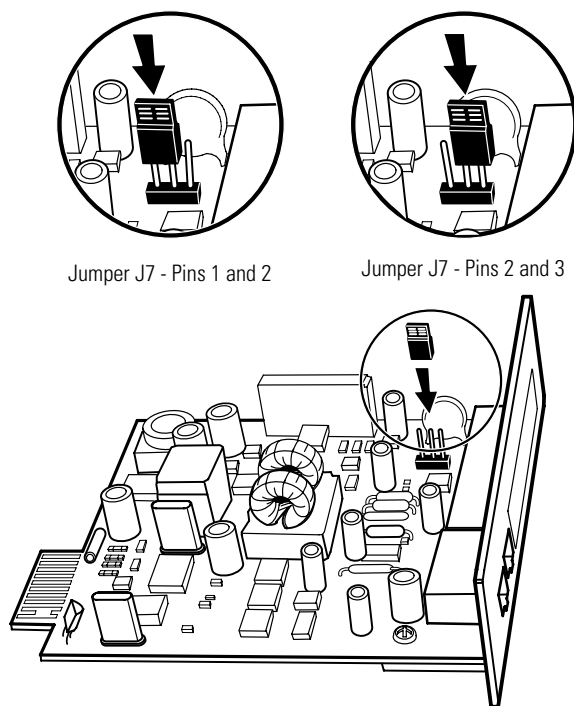

Figure 34. Setting the CAN Bridge Card Jumper J7 (Side View)
6. Set the jumper pins on the Powerware Hot Sync CAN Bridge Card according to the parallel configuration (see Figure 34):